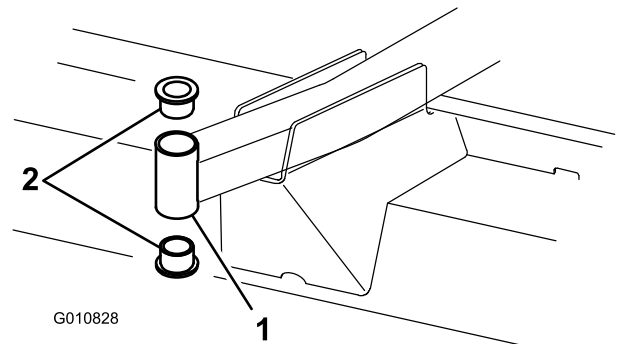

Figure 21
- Insert a pin punch into the top or bottom of the mounting tube, and drive the bushing out of the tube (Figure 21). Also, drive the other bushing out of the tube.